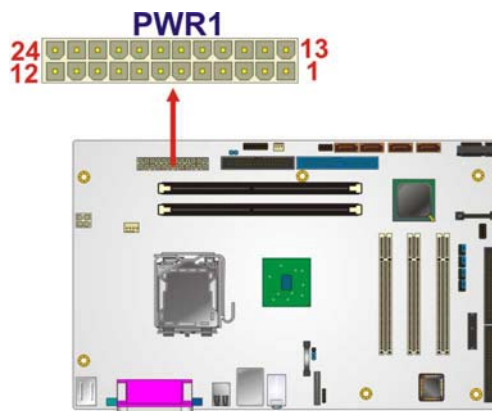

Figure 4-3: ATX Power Connector Location
- CN Location:** See **Figure 4-3**